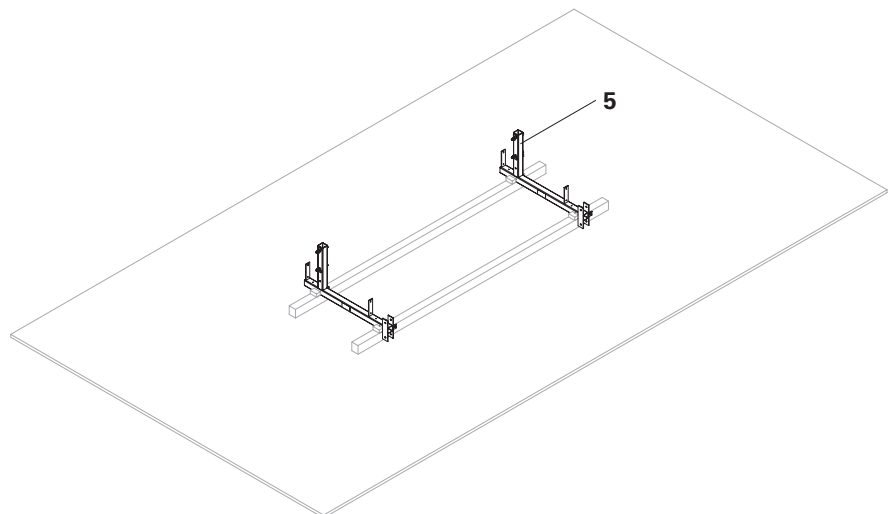

Fig. B5.04
1. Lay out the Climbing Platform Beams ACS (**5**) in the bracket spacing. (Fig. B5.04)